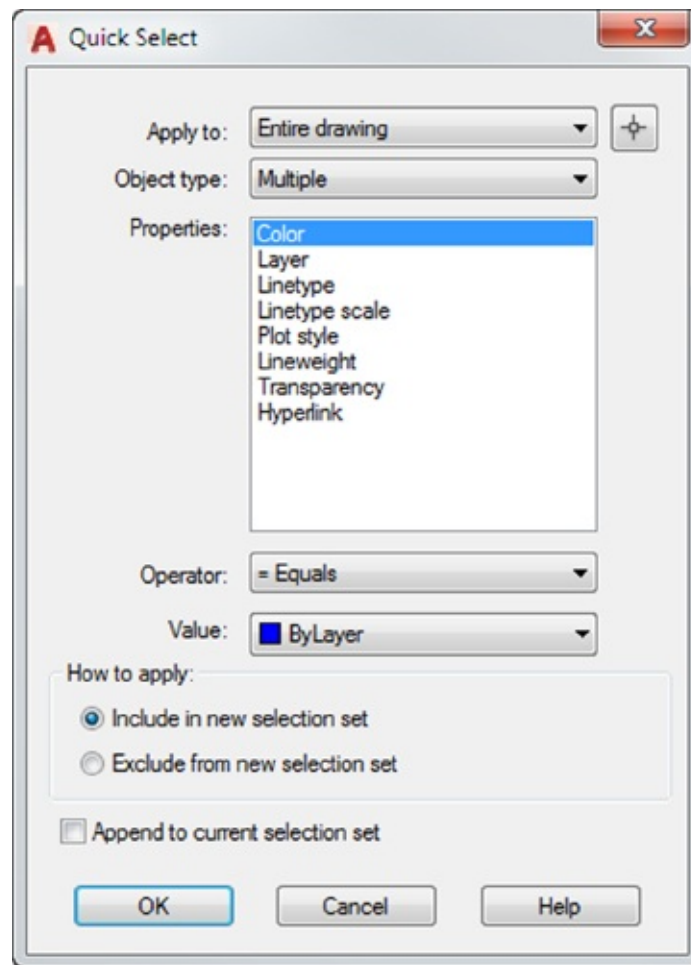

FIGURE 14.21 The Quick Select dialog box
3. Click the Quick Select tool to the right of the Select Objects button in the Objects group to open the Quick Select dialog box (see Figure 14.21).